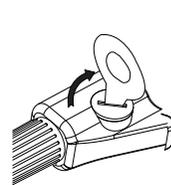

fig.3
- Put the battery cover back and turn clockwise to fix it (fig.3)